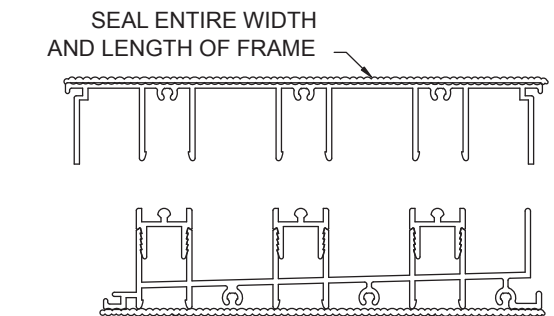

Figure 6
6. Seal under entire length of sill, where mitered corners meet, and all frame seams. Make sure to include where the frame sill and head meet the main frame jambs. (See Figure 6)